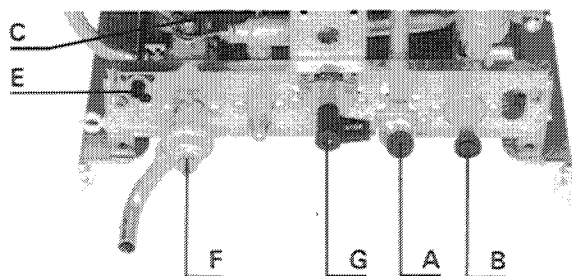

Fig. 34
- 1) Ensure that the isolating valves are open (fig. 34 B and C). **N.B. Valve (C) must be turned anti-clockwise by the knurled shaft until it dislocates from the thread and then pulled out horizontally to its extremity (approximately 30 mm (1 1/4 ins)).**
- 4) Vent air separator by loosening screw (fig. 34) (E) and purging until no air is apparent **N.B. :** ensure screw E is tightened.
- 2) Turn the lever on the gas service tap (fig. 34) (G) to the left. In the open position the flame sign is to the front.
- 4) Switch to HOT WATER + CENTRAL HEATING (II) on the selector switch (A). The fan will run at low speed.
- 5) Press the ignition button (R) and hold in.